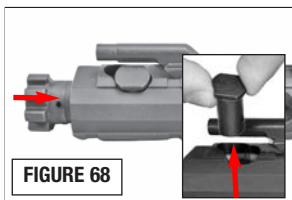

FIGURE 68
- Lift the bolt cam pin out of the bolt carrier (FIGURE 68).